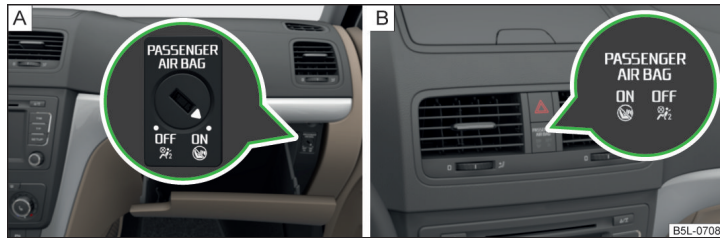

Fig. 14 Key-operated switch for the front passenger airbag / warning light for front passenger airbag
The front passenger airbag can be switched off with the key-operated switch » Fig. 14 on page 20 - [A].
Key switch positions » Fig. 14 - [A]
- Use the key to turn the slot of the key switch » Fig. 14 - [A] carefully into the position **OFF**.
- Check that the warning light **OFF** 🚗; under the text **PASSENGER AIR BAG** » Fig. 14 - [B] lights up after the ignition is switched on.
- Use the key to turn the slot of the key switch » Fig. 14 - [A] carefully into the position **ON**.
- Check that the warning light **ON** 🚗 under the text **PASSENGER AIR BAG** » Fig. 14 - [B] lights up after the ignition is switched on.